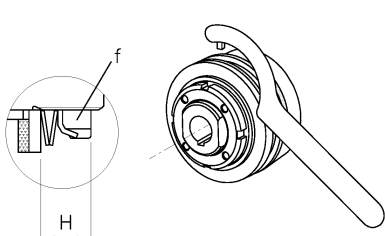

FIG. 10 : DF – GT
**GHIERA CON BLOCCAGGIO A TACCHE "GT"** (Gr.00.25-5.170 ; FIG.10 pos.f)
**NUT WITH NOTCHES LOCKING "GT"** (size 00.25-5.170 ; FIG. 10 pos.f)
**Quota H, molle a tazza, modello DF-GT Gr. 00.25 - 5.170 (FIG.10) / H dimension , axial springs, model DF-GT size 00.25 - 5.170 (FIG.10) :**